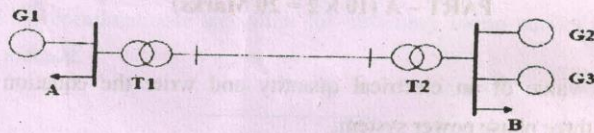

Fig. 11(a)
11. (a) The data for the system whose single line diagram shown in Fig.11(a) is as follows :